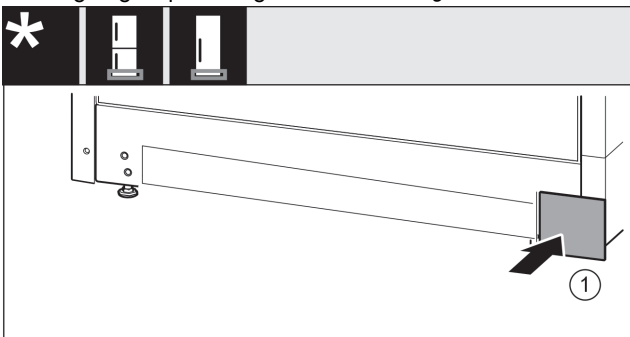

Fig. 17
- ▶ Put back the cover on the other side. Fig. 17 (1)